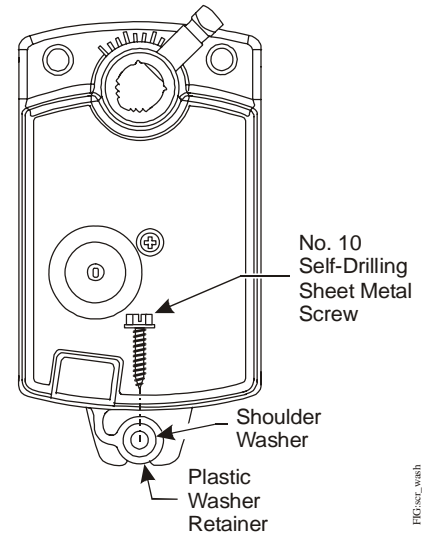

Figure 6: Inserting the Screw into the Shoulder Washer
- Hold the actuator in place on the damper shaft, and insert the No. 10 self-drilling sheet metal screw through the shoulder washer as illustrated in Figure 6.